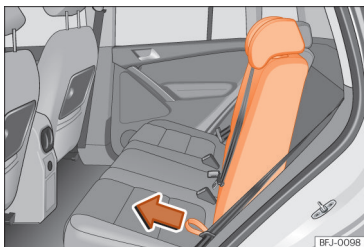

Fig. 155 Folding down and lifting the rear seat backrest
- Pull the cord »» Fig. 155 forward in the direction of the arrow while holding the seat backrest and move it forward slowly »» ⚠.